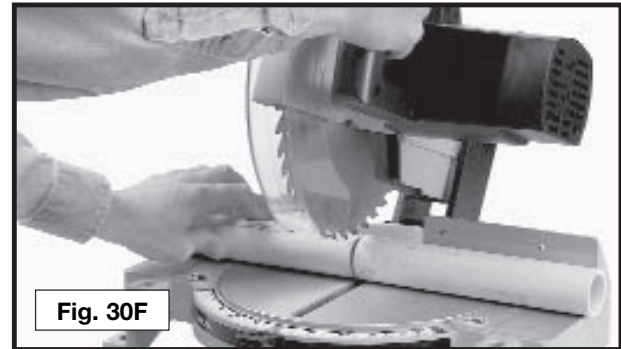

Fig. 30F
5. Cutting various sizes of plastic pipe is an easy job with this machine (Fig. 30F). Material must be **CLAMPED OR HELD FIRMLY TO THE FENCE TO KEEP IT FROM ROLLING**. This is extremely important when making angle cuts.